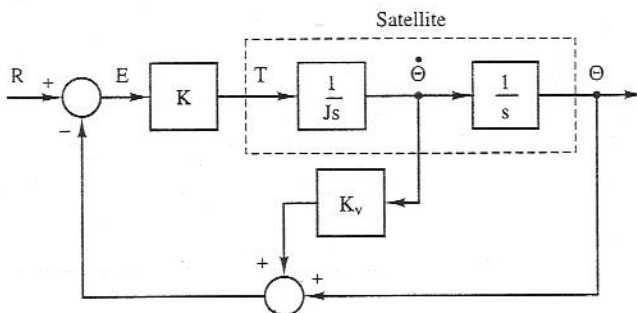

Figure P1-15 Satellite control system with rate feedback.
- 1-15. The satellite control system of Figure P1-12 is not usable, since the response to any excitation includes an undamped sinusoid. The usual compensation for this system involves measuring the angular velocity $d\theta(t)/dt$. The feedback signal is then a linear sum of the position signal $\theta(t)$ and the velocity signal $d\theta(t)/dt$. This system is depicted in Figure P1-15, and is said to have *rate feedback*.
- (b) The state equations for the satellite are derived in Section 1.4. Modify these equations to model the closed-loop system of Figure P1-15.